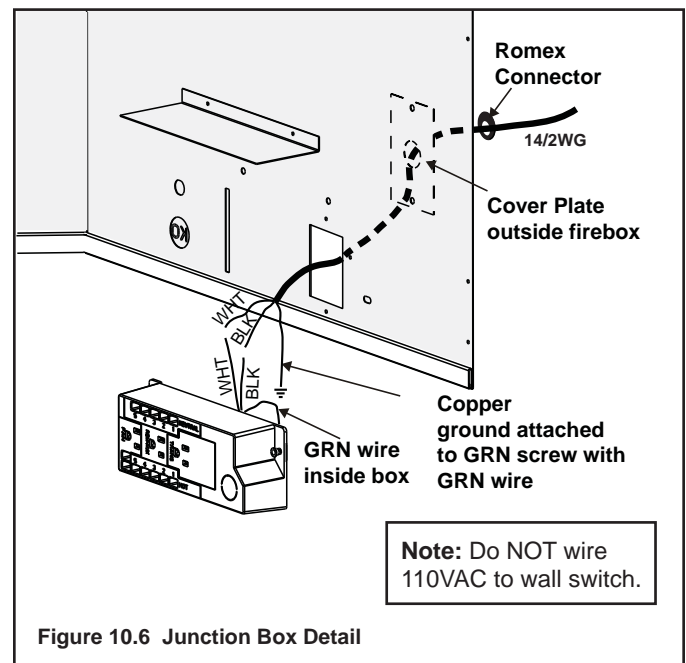

Figure 10.6 Junction Box Detail
A switch on the control box allows for battery power under no-power conditions. See Figure 10.6. By controlling the power supply with this switch, the batteries are supplying power only when needed, thus extending battery life. The switch also provides a convenient means for switching to battery power should there be a loss of 110 VAC power to the control box.
- Remove the cover plate located on the outer shell - right side (see Figure 10.6).
- Remove the screw attaching the junction box/receptacle to the outer shell, rotate the junction box inward to disengage it from the outer shell (see Figure 10.6).